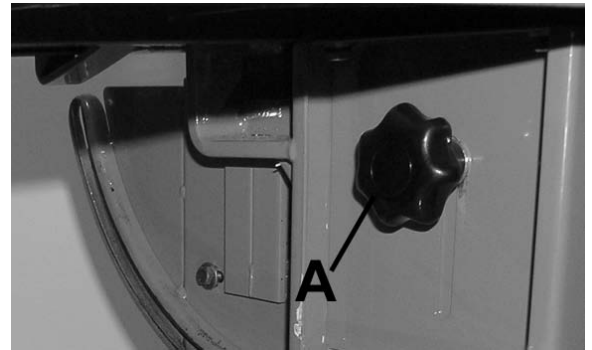

FIGURE 12
- 1) Loosen two lock knobs (A-Fig.12).